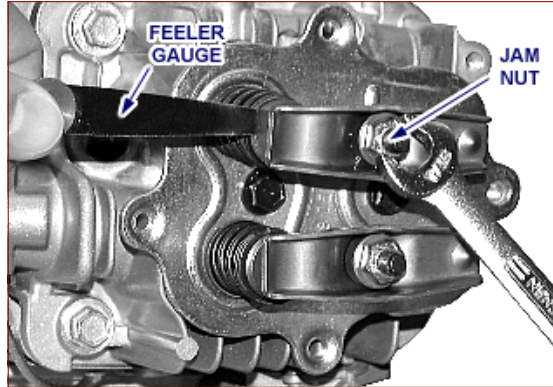

Fig. 20 - Adjust Rocker Arm Clearance, Current Style
5. If not, adjust jam nut until correct clearance is obtained, Fig. 20.